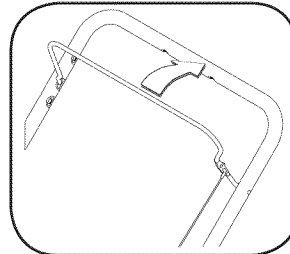

Figure 5-2
1. Engage the auger by squeezing the auger control against the upper handle. See Figure 5-2.